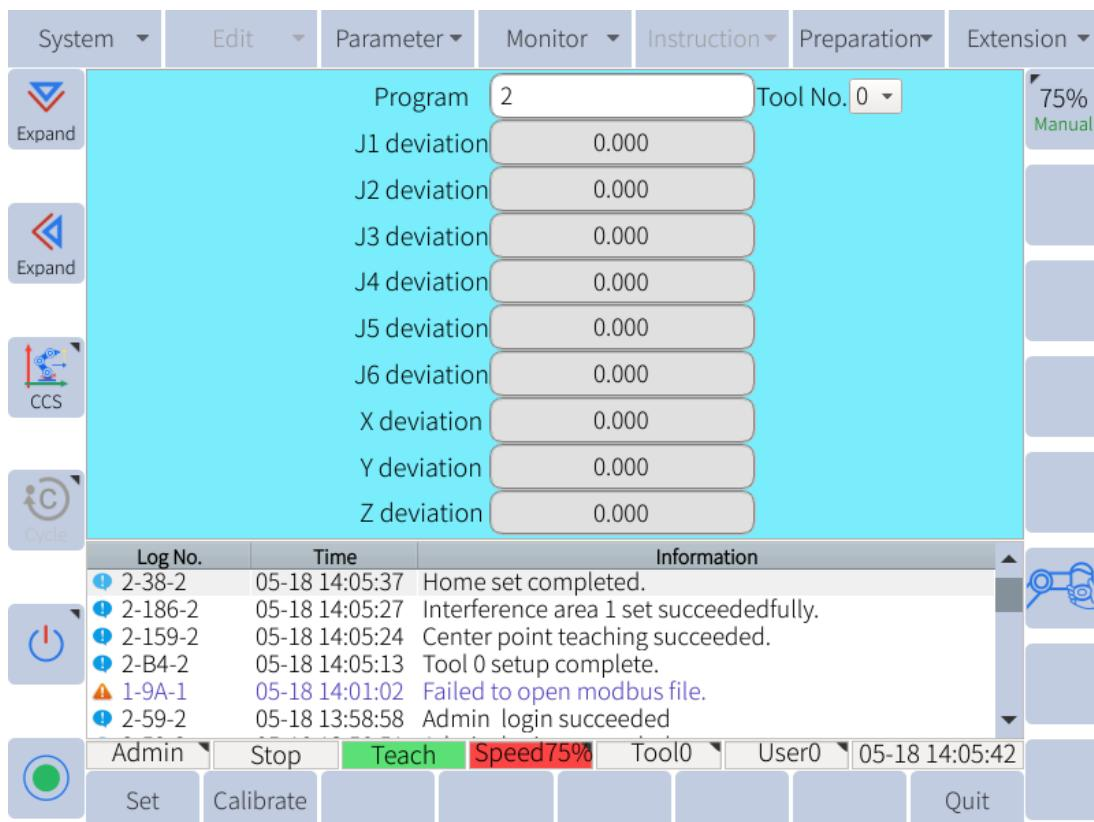

Figure 6-94 : Home position calibration
2. Go to Preparation -> Home Position -> Zero Calibration, as shown in **Figure 6-94**.